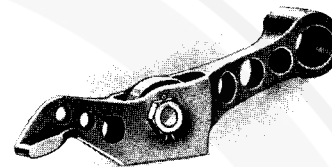

Fig. 6. Valve Rocker.
*The Valves and Camshaft* are located overhead. The valves are of special steel, selected for its corrosion resisting properties, and will run upwards of 15,000 miles without it being necessary to re-grind the seats. They are slightly inclined from the vertical and are operated from the centrally placed camshaft by rocker arms Fig. 6. The rocker arm for each valve has its fulcrum on the side of the cylinder head opposite to the valve. The fulcrum pin is carried on eccentrics, the purpose of which is to raise or lower the fulcrum, thereby adjusting the clearance between the tappet and